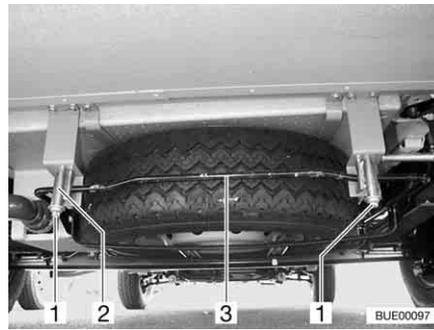

Fig. 311 Spare wheel support (basket)
- Loosen the nuts (Fig. 311,1) on the right and left rear hooks (Fig. 311,2) of the spare wheel support.
- Pull the bar (Fig. 311,3) slightly upwards. At the same time, pull down the hooks and unhook the bar.